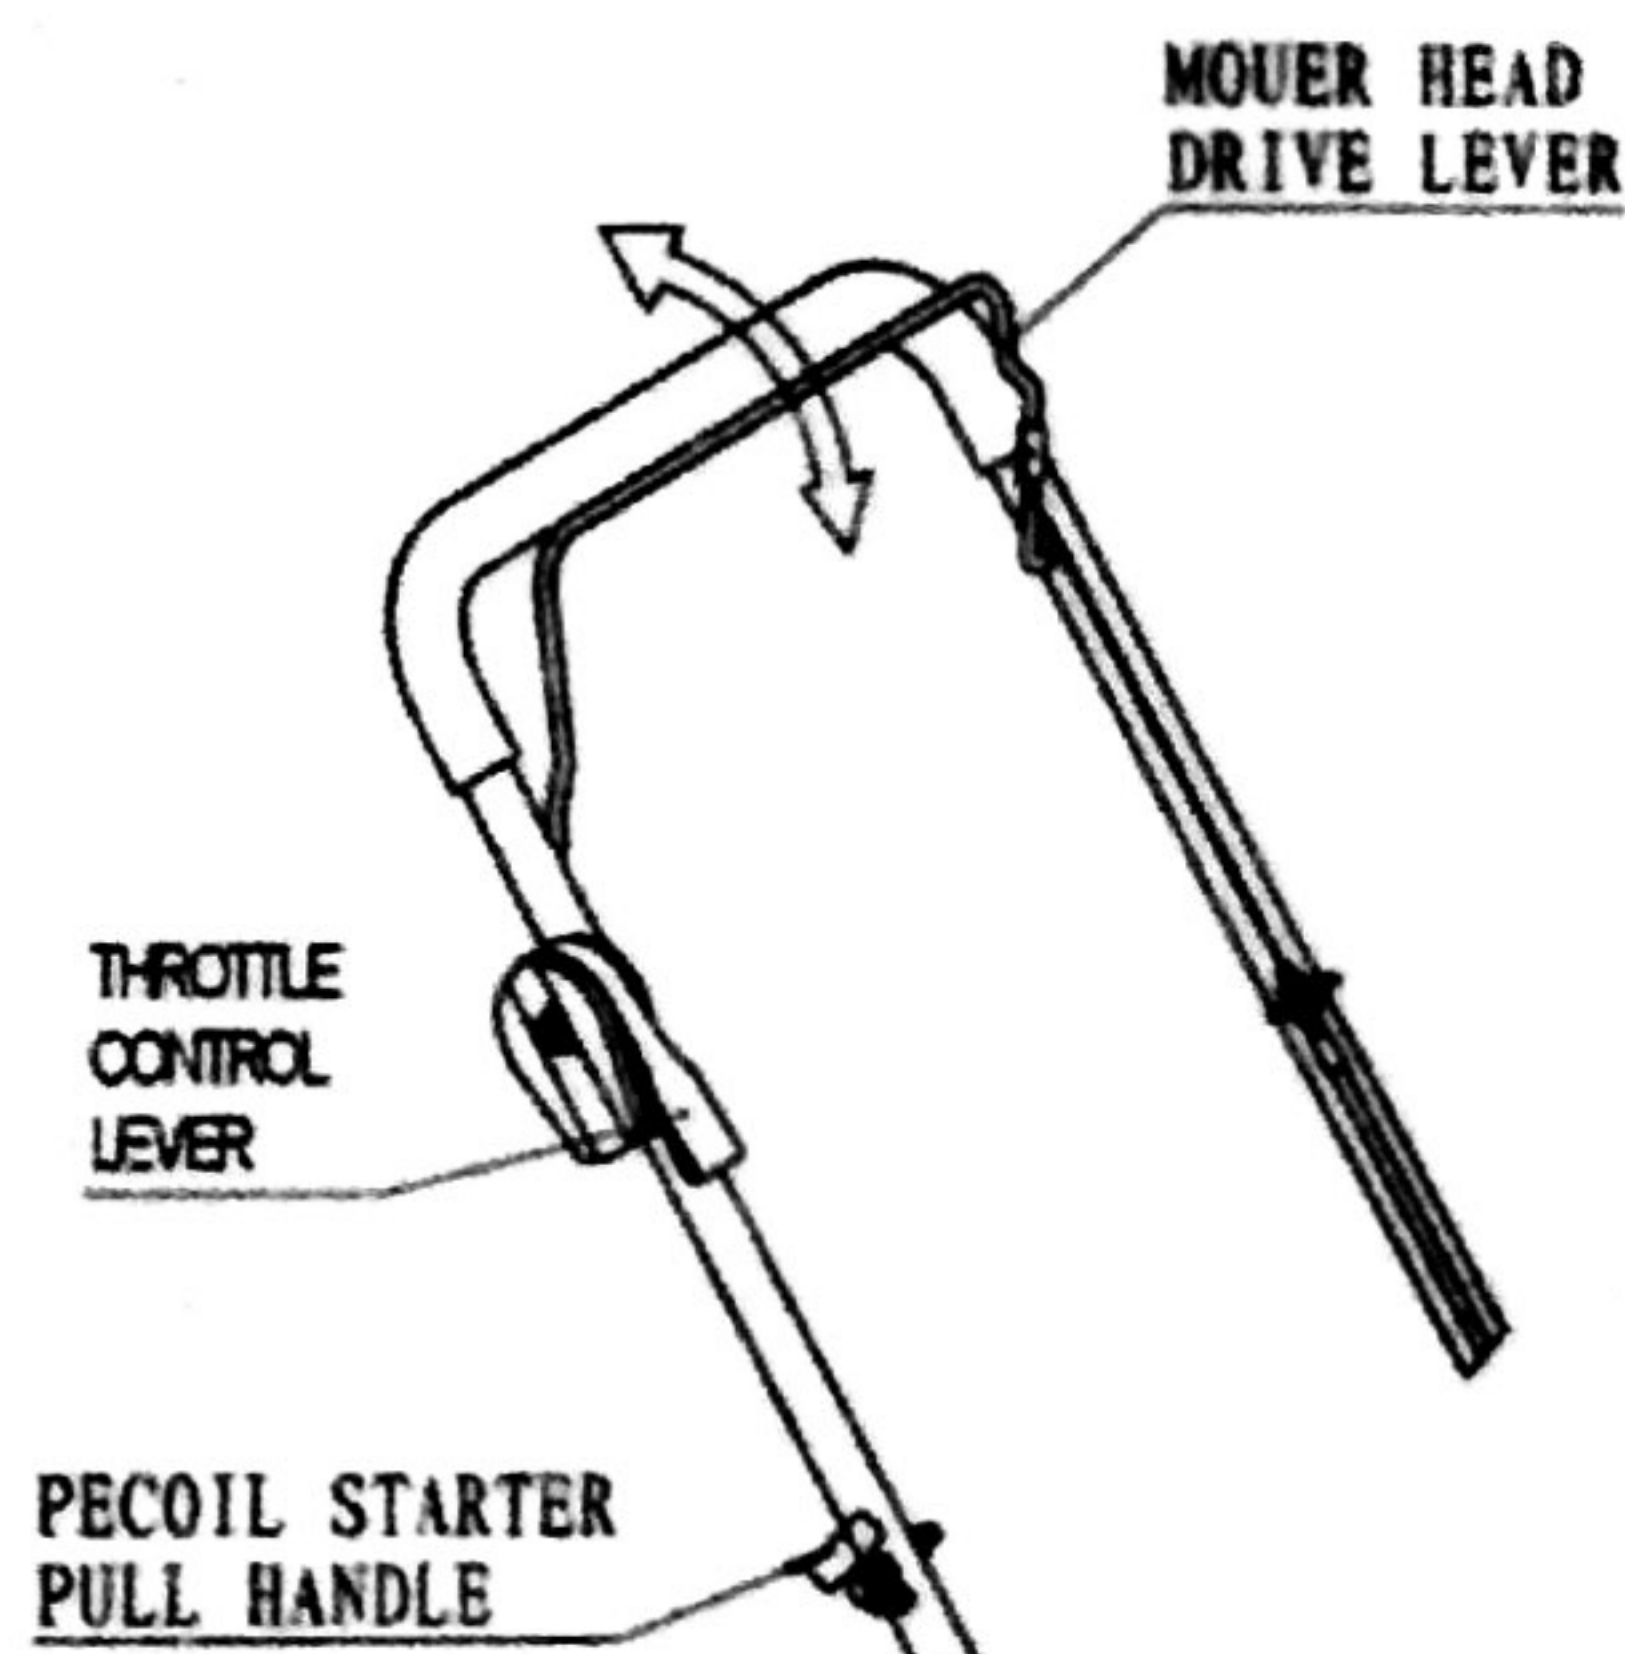

FIGURE 5: Using The Mower Head Drive Lever.
1. To engage the mower head, hold the control bail against the handle. The faster the engine runs, the faster the mower head will rotate. SEE FIGURE 5